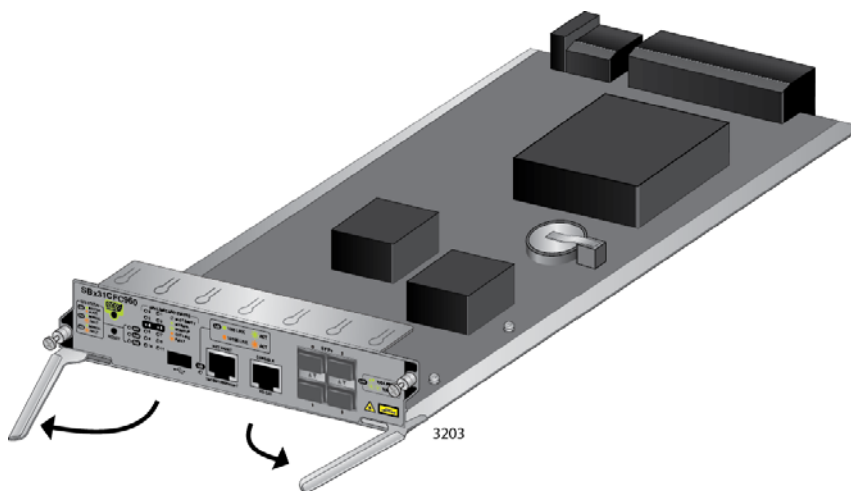

Figure 74. Opening the Locking Handles on the AT-SBx31CFC960 Controller Fabric Card
5. Move the locking handles on the front panel to the open position, as shown in Figure 74.